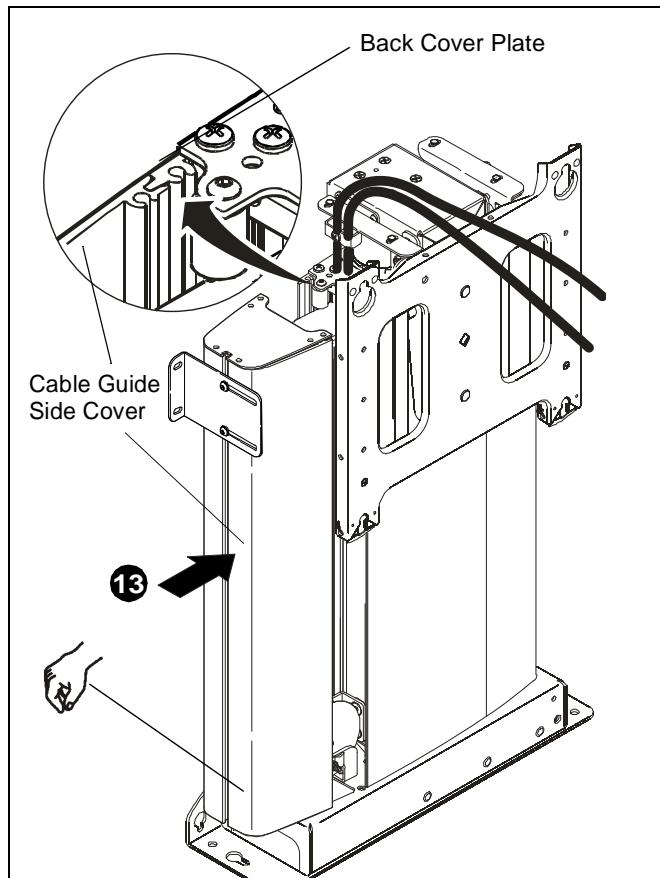

Figure 12
- Slide cable guide side cover over cable guide making certain lip on back cover plate is fully seated in groove in cable guide side cover. (See figure 12)